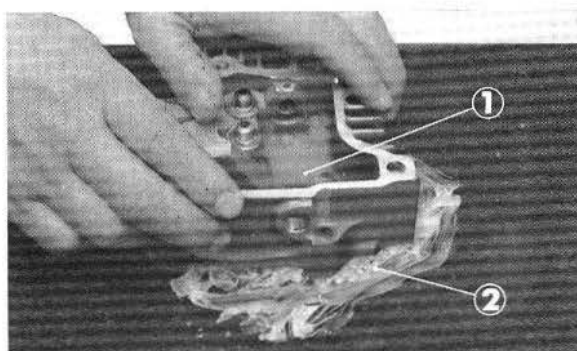

Fig. 2-11 ① Cylinder head
2. The warping of the cylinder head does not develop suddenly and, therefore, it is very difficult to detect. Since the head warpage is chiefly due to improper head torquing, adequate attention should be given. To check for cylinder head warpage, apply a thin coating of red lead or bluing on a surface plate and then work the head mating surface on the coated surface plate. The red lead or bluing will be transferred to the head surface indicating high and low spots. (Fig. 2-11)